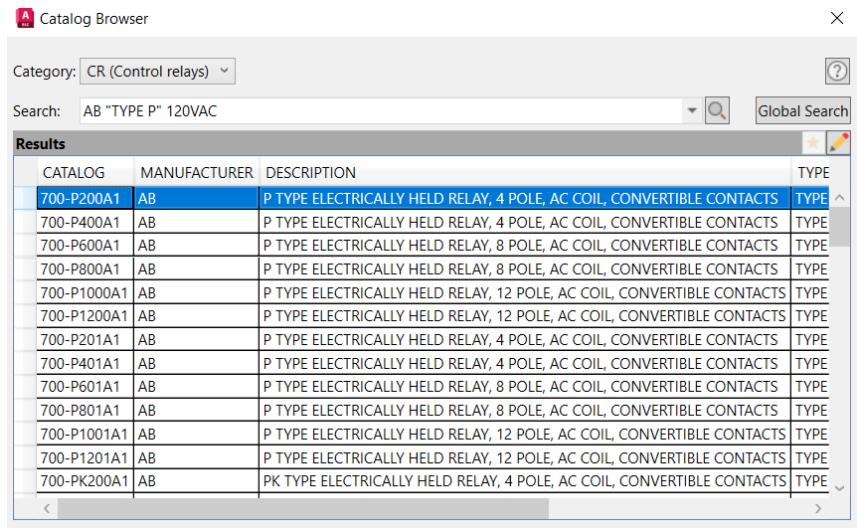

Figure 6-60 The Catalog Browser dialog box
- 3. Choose the **Catalog Lookup** button; the **Catalog Browser** dialog box is displayed, as shown in Figure 6-60.